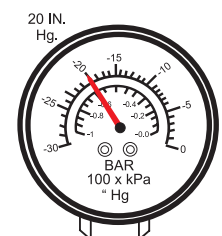

**Figure 13. Vacuum Pump**
5. On the vacuum pump there is a vacuum hose (Figure 13). Connect the free end of the vacuum hose to vacuum line hose fitting located on the baseplate.